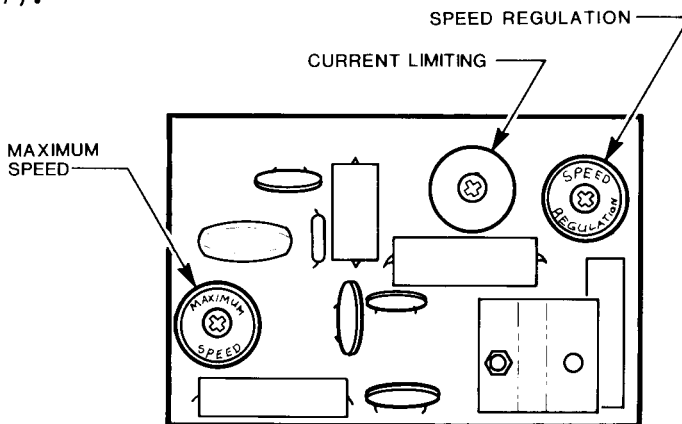

Figure 4-2 - TRIM POT LOCATIONS ON PC BOARD
8. Set the MAXIMUM SPEED trim pot to full CCW (refer to Figure 4-2 shown below).
9. Set the SPEED REGULATION trim pot to full CCW (refer to Figure 4-2 shown below).
10. Set the CURRENT LIMITING trim pot to full CCW (it is the unlabeled trim pot in Figure 4-2 shown below).